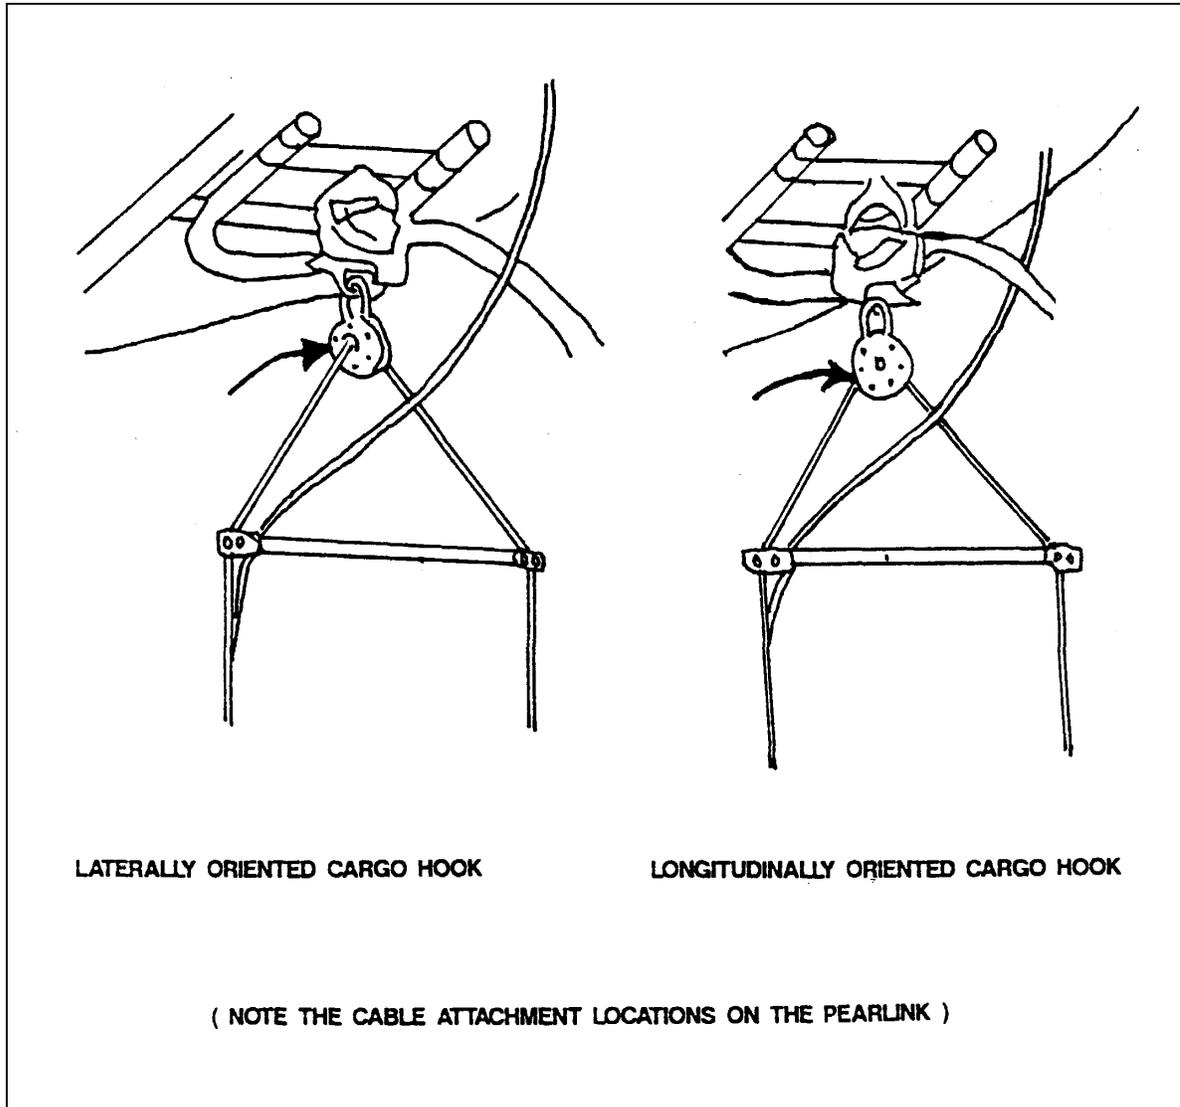

Figure 7
- D. Ensure that the pear-link adapter is correctly configured for the cargo hook on the helicopter. (See Figure 7.) Make sure that the cables are between the skids and will not become entangled during takeoff. Attach the pear-link to the cargo hook. At this time conduct a safety check of the cargo hook, both manual and electrical releases. After insuring that both switches are in the off position, secure the electrical cannon plug to the plug on the helicopter.